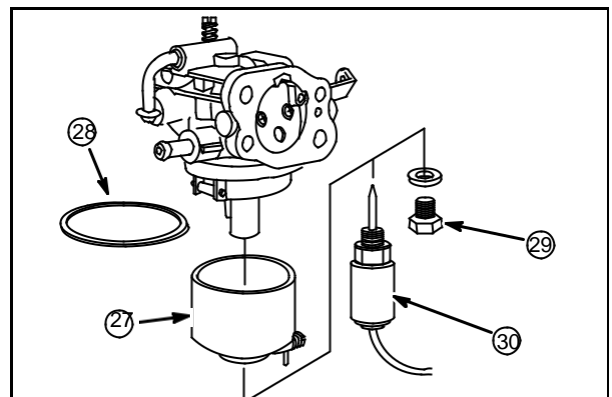

Fig. 57
Install bowl gasket (28), float bowl (27), washer and screw (29) or anti-afterfire solenoid (30), if equipped, **Fig. 57**.